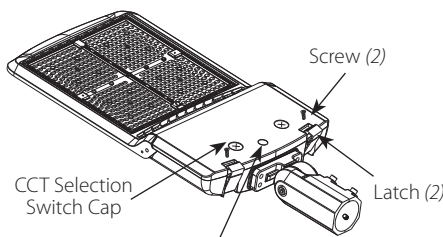

FIG. 5
Follow instructions below to change Fixture Color Temperature (CCT) or Power (W) from the factory settings. **WARNING: Do not open or remove Respirator Plug (Fig 5.)**
1. Unscrew the CCT Selection Switch Cap as shown in Fig. 5.
1. Open the Driver Box Cover by Latch (2) and remove Screws (2) as shown in Fig. 5.